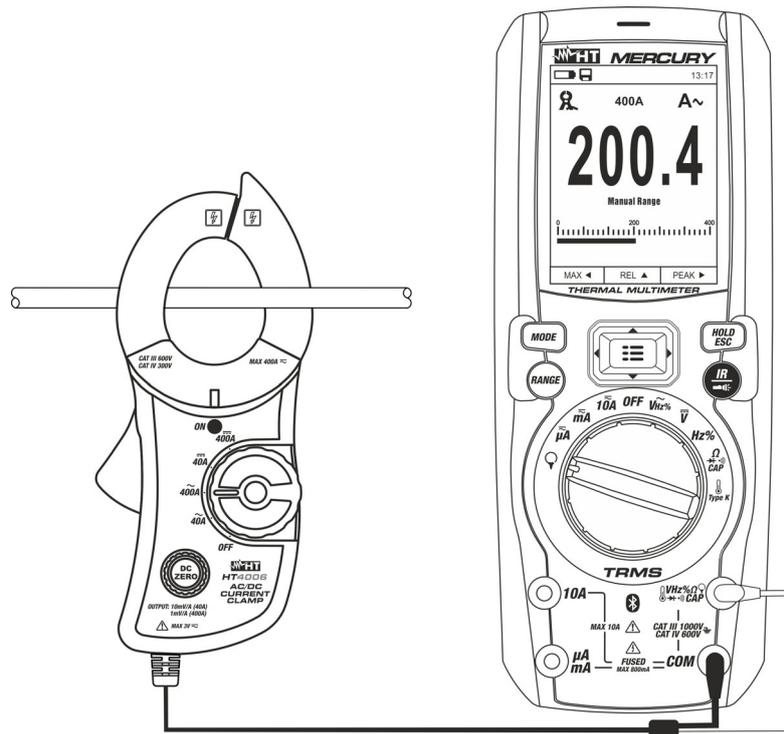

Fig. 4: Use of the instrument for measuring AC/DC current in combination with MERCURY
- Open the jaws and insert the phase cable in the middle of it (see Fig.4). **For DC current measurement** consider the arrow on the top part (see Fig. 1 – part 9) which indicate the positive direction of the current. The display of the multimeter shows the value of current **expressed in A**